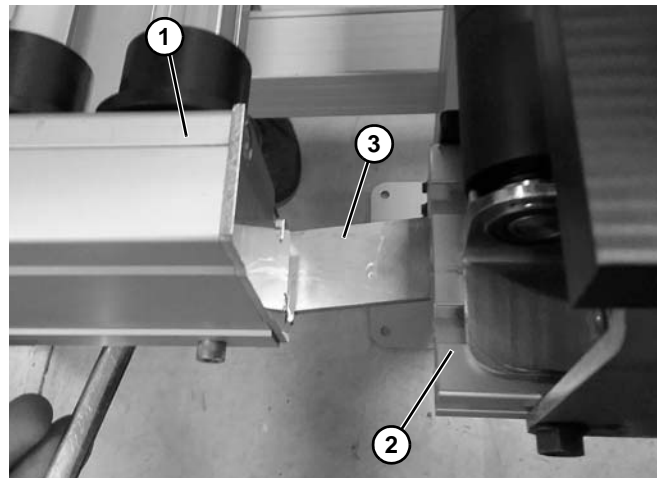

Figure 5
1. For installing conveyor (**Figure 5, item 1**) to corner conveyor (**Figure 5, item 2**), install studs and/or spring nuts into conveyor channels. Align conveyor and tie bracket (**Figure 5, item 3**) with corner conveyor.